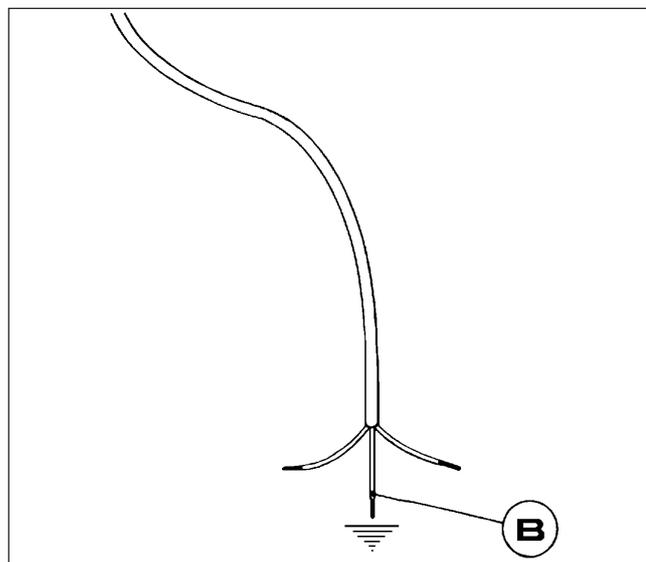

FIG. 20
If the power supply cable is replaced, the installer should leave the ground wire (B) longer than the phase conductors (fig. 20) and comply with the recommendations given in paragraph 9.